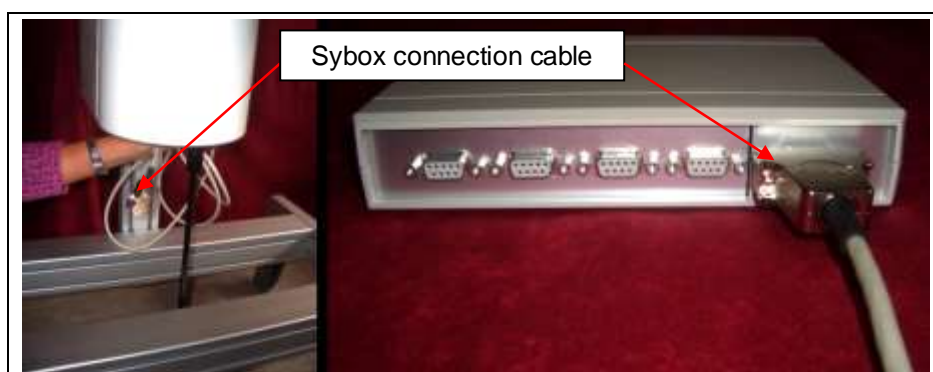

Figure 15: The Sybox connection cable is located inside the housing of the AG501
- Drag the Sybox cable out of the housing's bottom opening (one end is permanently affixed within the housing) and connect it to the Sybox (Figure 15).